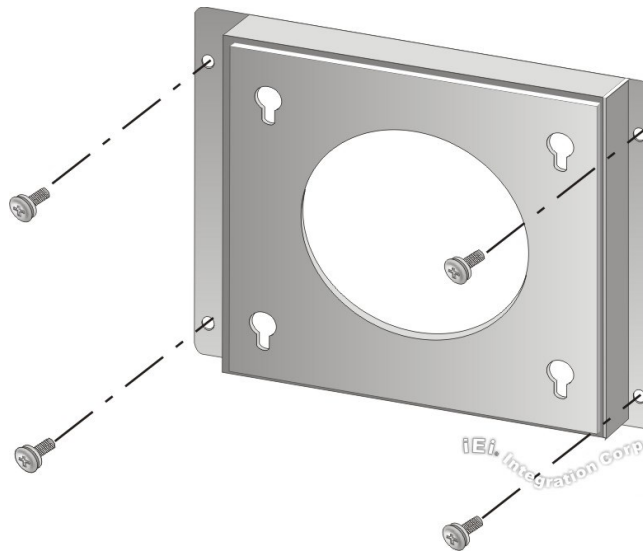

Figure 3-10: Wall-mounting Bracket
Step 5: Secure the mounting bracket to the wall by inserting the retention screws into the four pilot holes and tightening them (**Figure 3-10**).